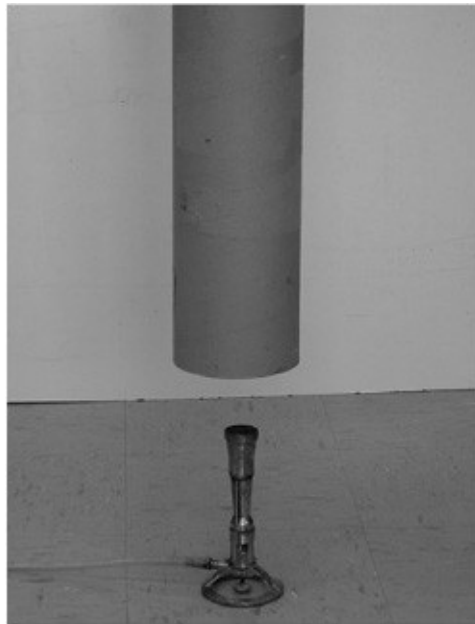

Figure 70-1 *Resonating tube.*
6. Lift the cylinder with both hands and position it above the burner. Hold it a few inches above the top of the burner, but not so low that it constricts the air going into the burner. See Figure 70-1.